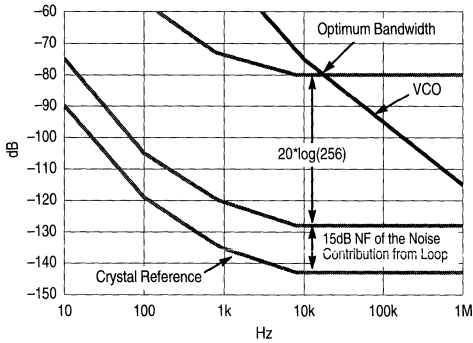

Figure 6. Graphical Analysis of Optimum Bandwidth
The crystal reference and the VCO are characterized as high–order 1/f noise sources. Graphical analysis is used to determine the optimum loop bandwidth. It is necessary to have noise plots from the manufacturer. This method provides a straightforward approximation suitable for quickly estimating the optimal bandwidth. The loop contribution is characterized as white–noise or low–order 1/f noise given in the form of a noise factor which combines all the noise effects into a single value. The phase noise of the Crystal Reference is increased by the noise factor of the PLL IC and related circuitry. It is further increased by the total divide–by–N ratio of the loop. This is illustrated in Figure 6.
The point at which the VCO phase noise crosses the amplified phase noise of the Crystal Reference is the point of the optimum loop bandwidth. In the example of Figure 6, the optimum bandwidth is approximately 15KHz.
- Step 4: The point at which the VCO phase noise crosses the amplified phase noise of the Crystal Reference is the point of the optimum loop bandwidth. This is approximately 15kHz in Figure 6.